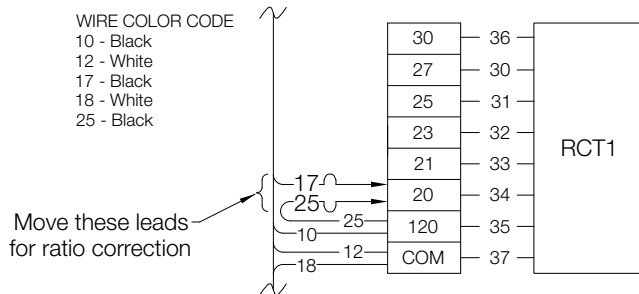

Figure 15. Ratio Correction Transformer connections.
- Obtain a -5 difference by placing lead # 17 on **RCT1 - 20** and placing lead # 25 (the end not connected to the 120 terminal on the RCT terminal block) on **RCT1 - 25** ($20 - 25 = -5$ volts). See Figure 15.
- Obtain a +5 difference by placing lead # 17 on **RCT1 - 25** and place lead # 25 (the end not connected to the 120 terminal on the RCT terminal block) on **RCT1 - 20** ($25 - 20 = +5$ volts). See Figure 15.
- Obtain a +3 difference by placing lead #17 on **RCT1 - 23** and placing lead #25 (the end not connected to the 120 terminal on the RCT terminal block) on **RCT1 - 20** ($23 - 20 = +3$ volts). See Figure 15.